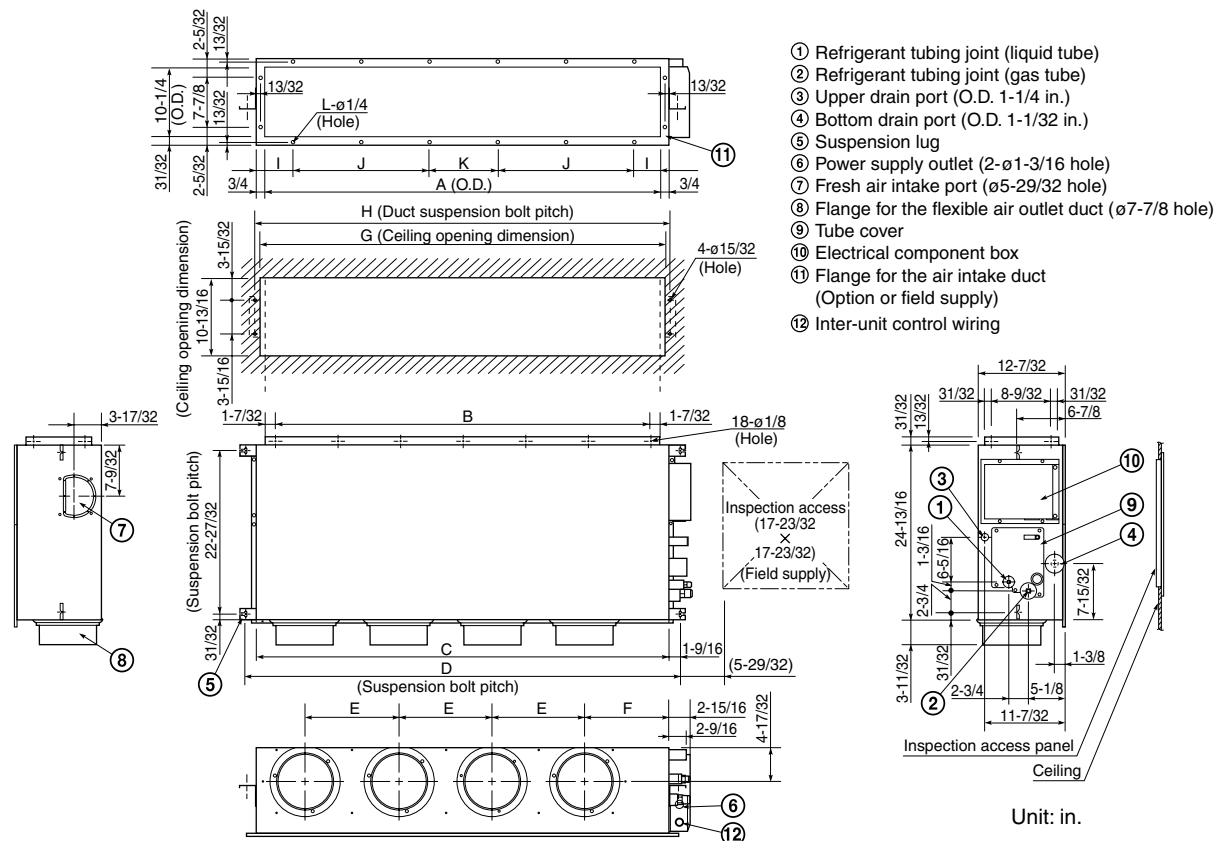

Fig. 3-85
- Fig. 3-85 and Table 3-4 show the detailed dimensions of the indoor unit.